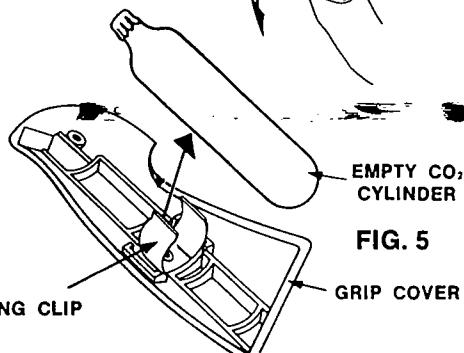

FIG. 5
- D. Remove the Grip Cover from the left side of Revolver lifting from the bottom edge. This will remove CO₂ Cylinder. Slide empty CO₂ Cylinder from Holding Clip. Fig. 5.